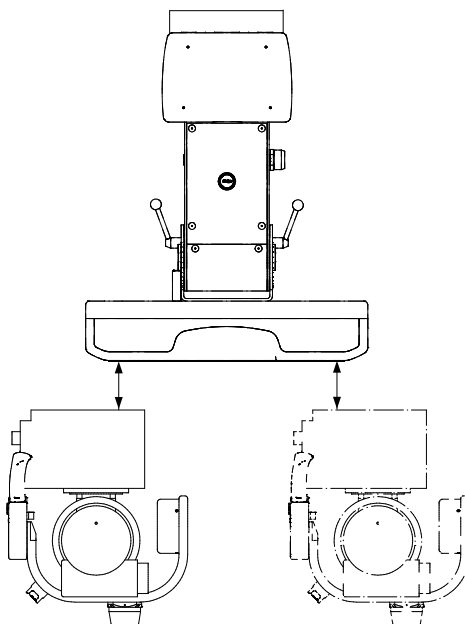

Fig. 4-70 Alignment of Wallstand
2. Move the OTC and place the collimator 10 mm from the image receptor of the Wallstand according to **Fig. 4-70**.